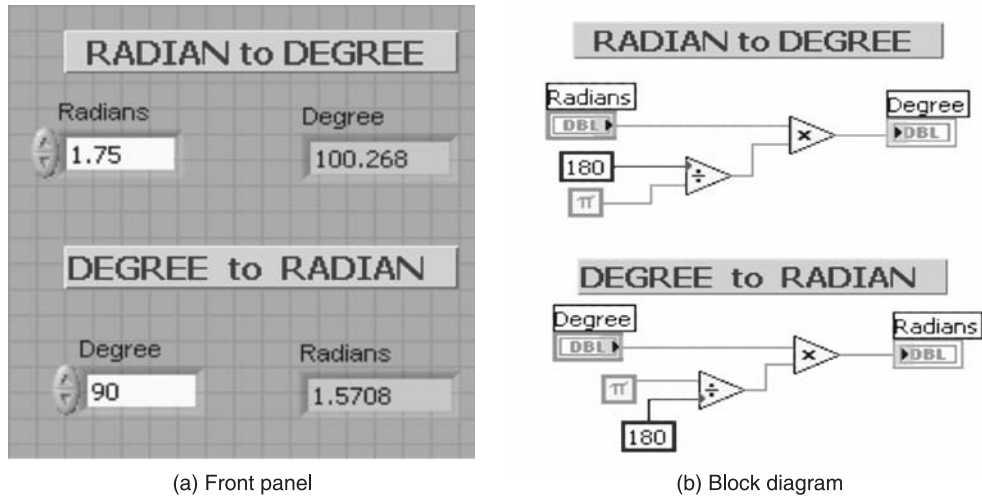

Figure P2.9
**Solution** The front panel and block diagram are shown in Figures P2.9(a) and P2.9(b) where  $\text{Degrees} = \text{Radians} (180/\pi)$ .